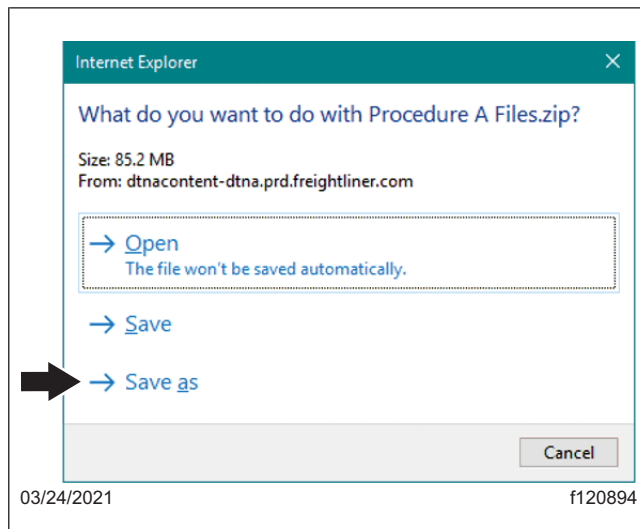

Fig. 4, Selecting Save As
7. Select 'Save As.' See **Fig. 4**.